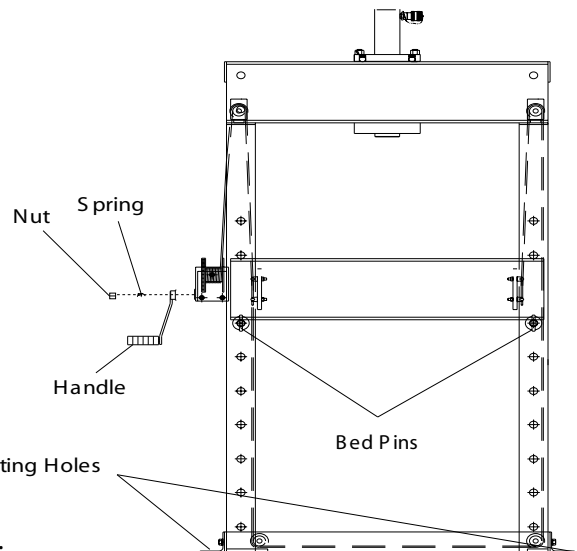

Figure 2
- Thread winch handle on the winch drive shaft until a clicking noise is produced when turning clockwise. Install the spring & locknut on the end of the drive shaft (Figure 2).